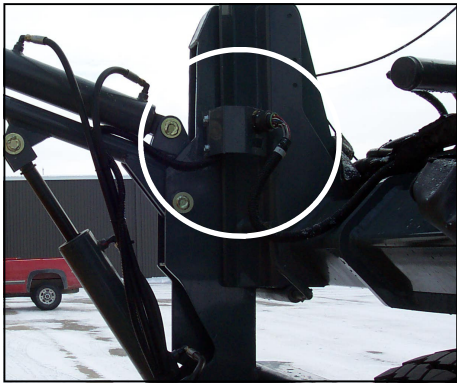
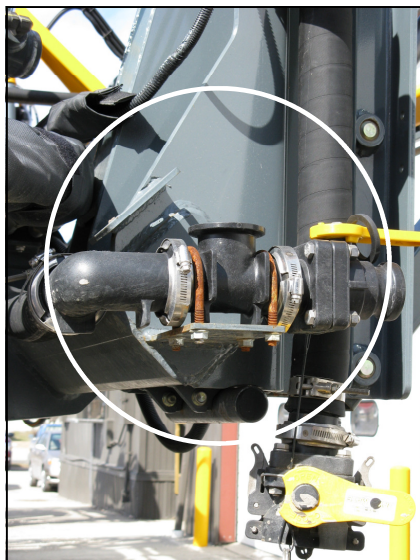

FIG. 4.60-1
FIG. 4.60-3
7. Once you have cleared the lock pin, unhook the hydraulic, solution, electrical, and foamer lines (if equipped), being careful not to leave the ends in a place that they may get damaged or contaminated.	60; FIGURES 4.60-1 thru 4.60-4
A standard GST machine will have 3 points of disconnection from the boom: the electrical pigtail on the front-right hand side of the machine (fig. 4.60-1), the hydraulic quick coupler in the center of the machine (fig. 4.60-2), and the main solution disconnect on the right side of the machine, above the front wheel (fig. 4.60-3).